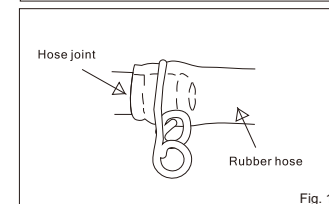

Fig. 11
6. Push the rubber hose onto the hose joint as far as it will go. Do not use a vinyl plastic hose, as this can be dangerous. Secure the hose with both sides of hose clamp.(Fig.11) see to it that the rubber hose does not touch a part of the gas cooker nor lies underneath it.